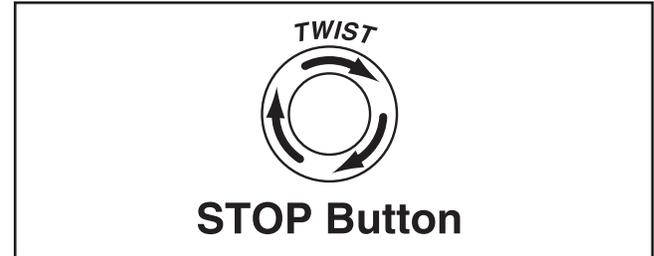

Figure 19. Resetting the switch.
5. Twist Emergency STOP button clockwise until it springs out (see **Figure 19**). This resets the switch so the machine can start.